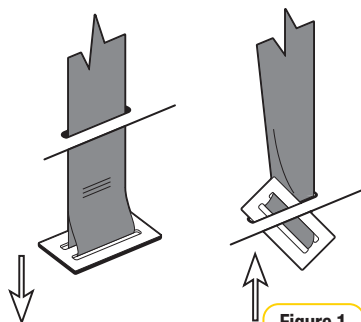

Figure 1
**Step 1:** From the underside of the restraint pull each crotch 3-bar slide then turn 3-bar slide and push through each slot to remove the Harness Buckle from the restraint (refer Figure 1).